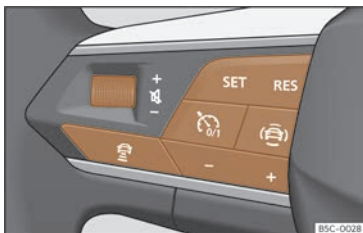

Fig. 131 On the multifunction steering wheel: buttons for operating the ACC.
- Press the  button on the multifunction steering wheel >>> **Fig. 131**.
- To start regulation, press the button **SET** >>> **Fig. 131**.
To program the speed, press the + or - >>> **Fig. 131** buttons to the desired speed. The speed is adjusted at intervals of 10 km/h (5 mph).
- Press the button  and then the button + or - >>> **Fig. 131**.
- Briefly press the button  >>> **Fig. 131** or press the brake pedal.